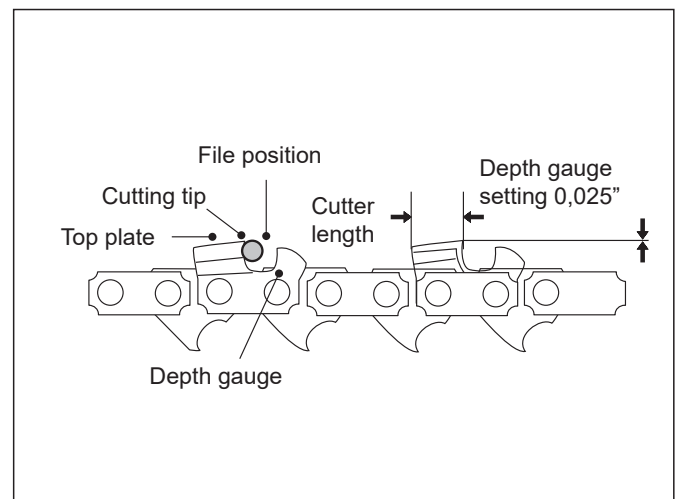

Fig. 37
8. Use a depth gauge measuring instrument to check the height of the depth gauge. Depth gauge measuring jigs are available from most reputable tool merchants (Fig. 37).